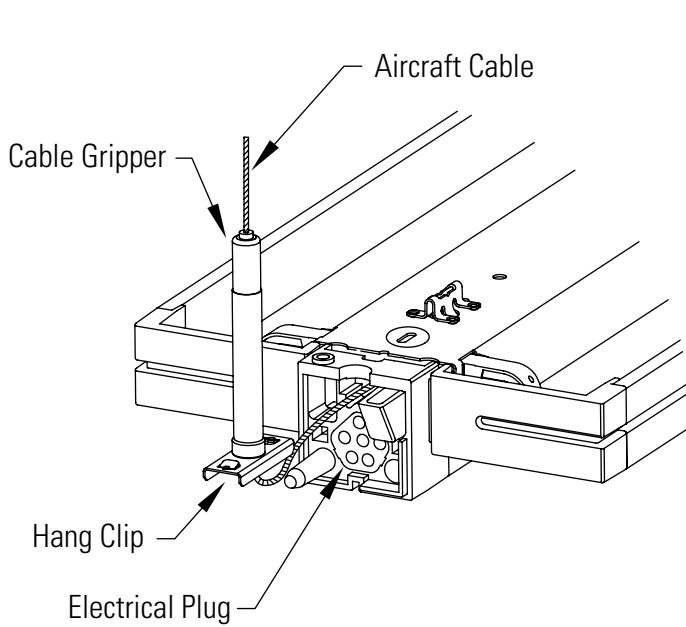

Figure 2
- B. Insert the Hanging Clips from first and second suspension assemblies into the fixture. Make sure to push excess cable into fixture. (Fig. 2)
- B. Insert the Hanging Clips from second and third suspension assemblies into the second fixture. Make sure to push excess cable into fixture. (Fig. 2)